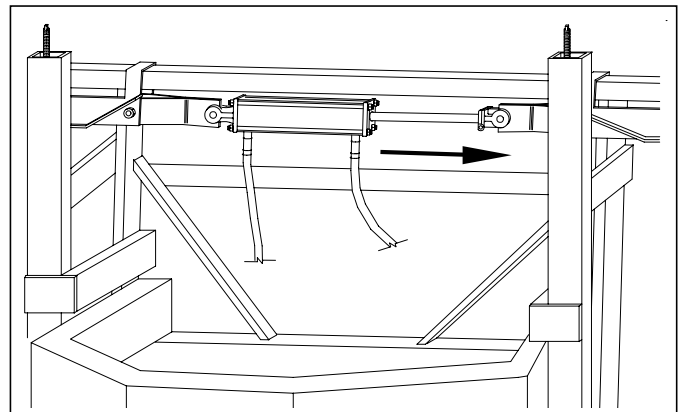

Figure 13
Spring rods near the center that do not extend high enough are adjusted by lowering the transport frame by retracting the cylinders. *Once the spring rods are at the desired setting*, screw the threaded studs on top of the vertical tubes (page 22 Figure 13) down as far as possible and secure them with the jam nuts. This adjustment will stop the lift cylinder travel at the same point each time the boxes are lowered for drilling and assures accurate seed depth control.
*Refer to Figure 13*